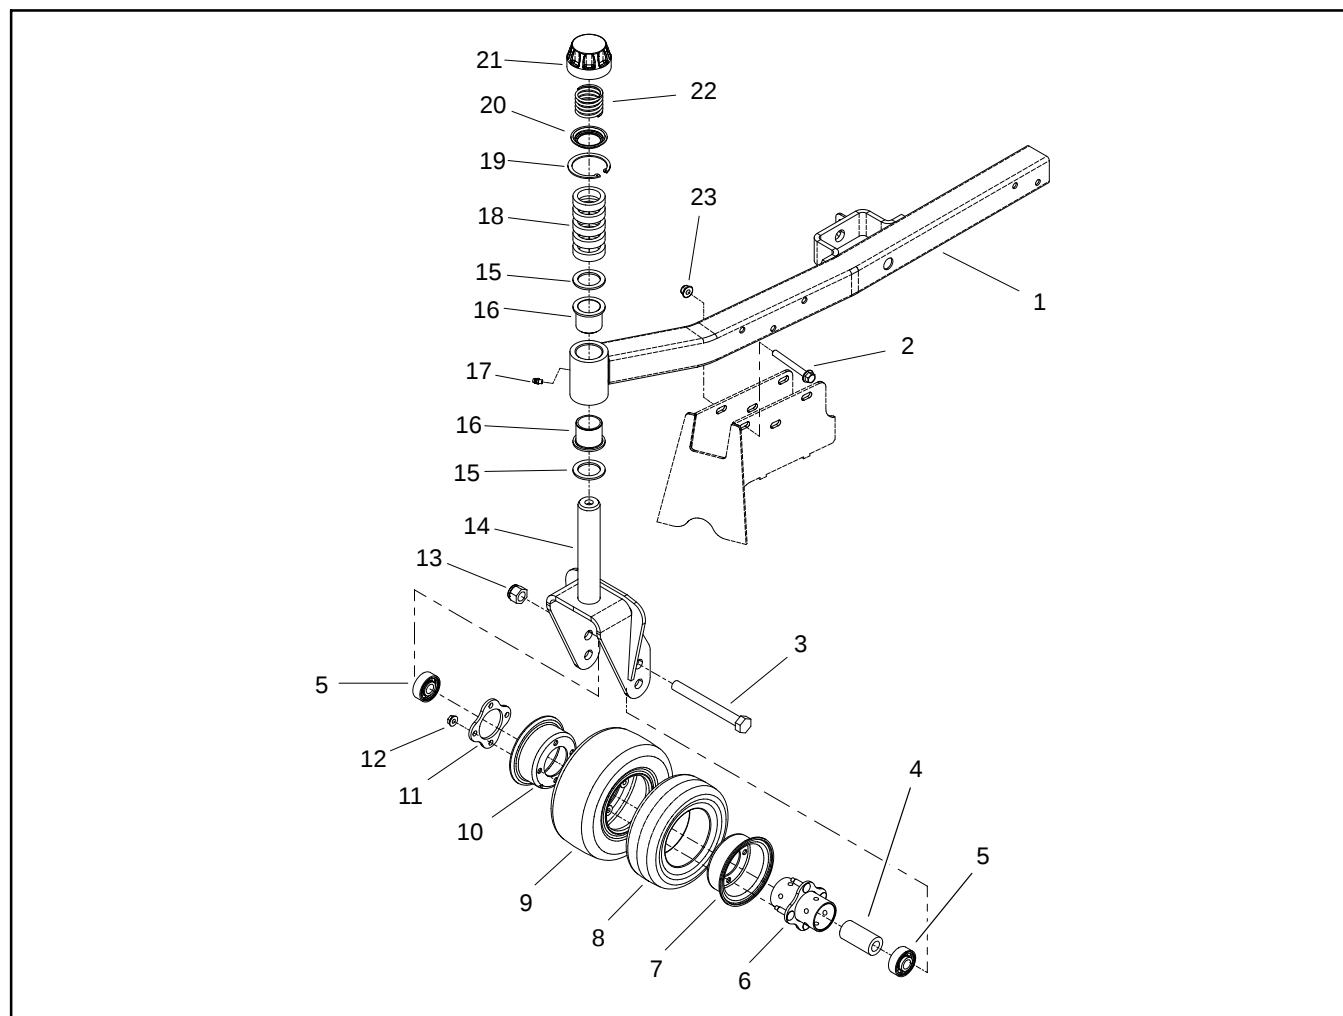

Figure 12
Disassembly (Fig. 12)
1. Disassemble castor forks and wheels as required using Figure 12 as a guide.
Assembly (Fig. 12)
1. Assemble castor forks and wheels using Figure 12 as a guide. Make sure that thrust washers (item 15) are positioned directly above and below castor arm bushings.